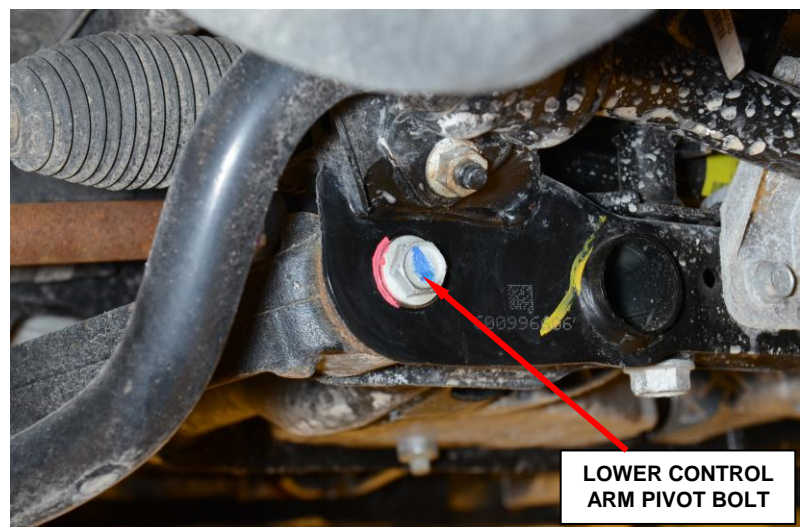

Figure 12 – Front Lower Control Arm Pivot Bolt
56. With full weight on the vehicle suspension, align the right front lower control arm pivot bolt with the alignment marks and then tighten the front lower control arm pivot nut and bolt to 89 ft. lbs. (120 N·m) (Figure 12).